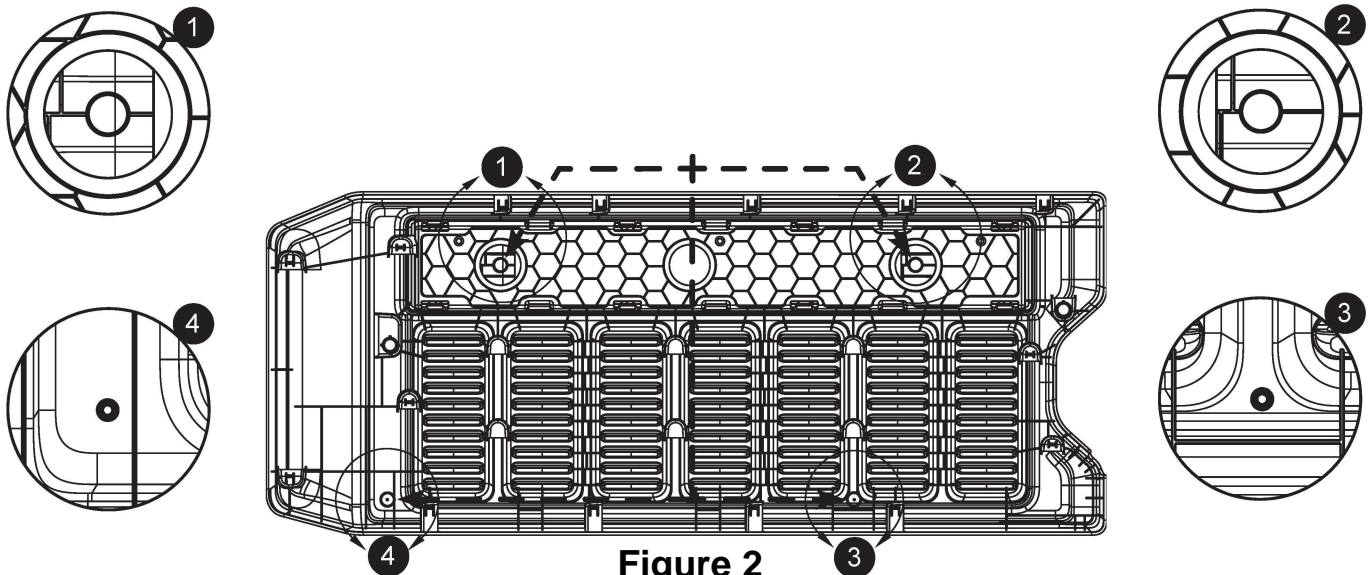

Figure 2
- Drill through the plastic trim panel in the (4) indicated locations (See Figure 2), and clean edges of holes as required.